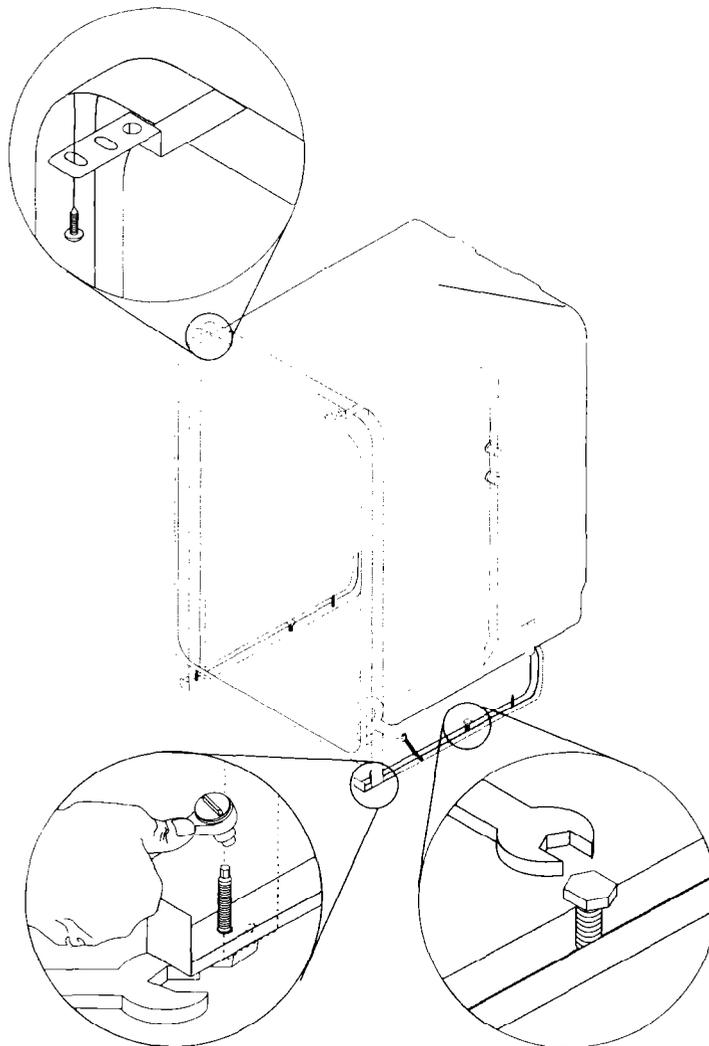

Figure 16
1. If necessary, adjust leveling screws so mounting brackets touch the underside of the countertop (see Figure 16).
1. Screw  $\frac{1}{4}$ " lag screws (not included) through the holes provided in the frame rail (see Figure 16).